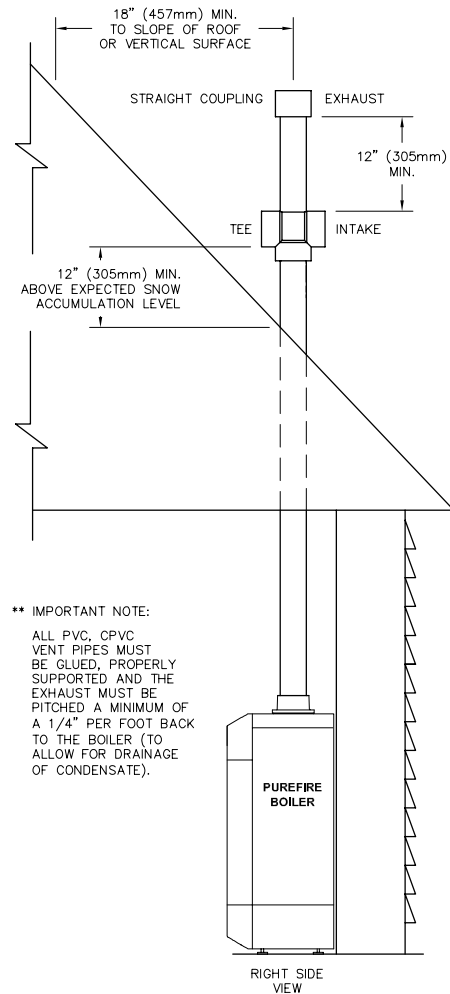

Figure 3.8: Standard Vertical Vent Installation
- a. Figure 3.8 shows the approved venting configuration for vertical venting using the standard fittings supplied.
- g. Refer to Figures 3.8 through 3.12 for vertical venting options using PVC or CPVC pipe.